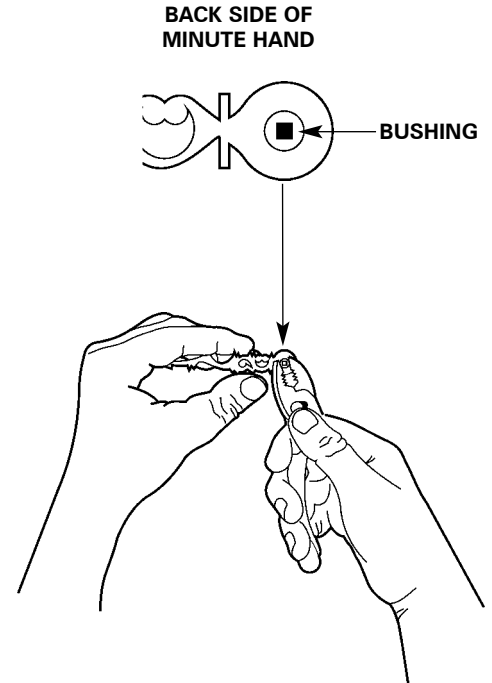

FIGURE 19
3. Remove the hand from the hand shaft by grasping it with your fingers at the point where it attaches to the shaft. Pull the hand straight off. This hand is not screwed on and should come off easily. The minute hand has a small raised area on the back side directly around the shaft hole, this is the hand bushing. Using pliers, grip the bushing firmly by its sides so that it cannot slip in the pliers. With your other hand, turn the clock hand forward or backward the distance necessary to chime at the correct time. (See figure 19).